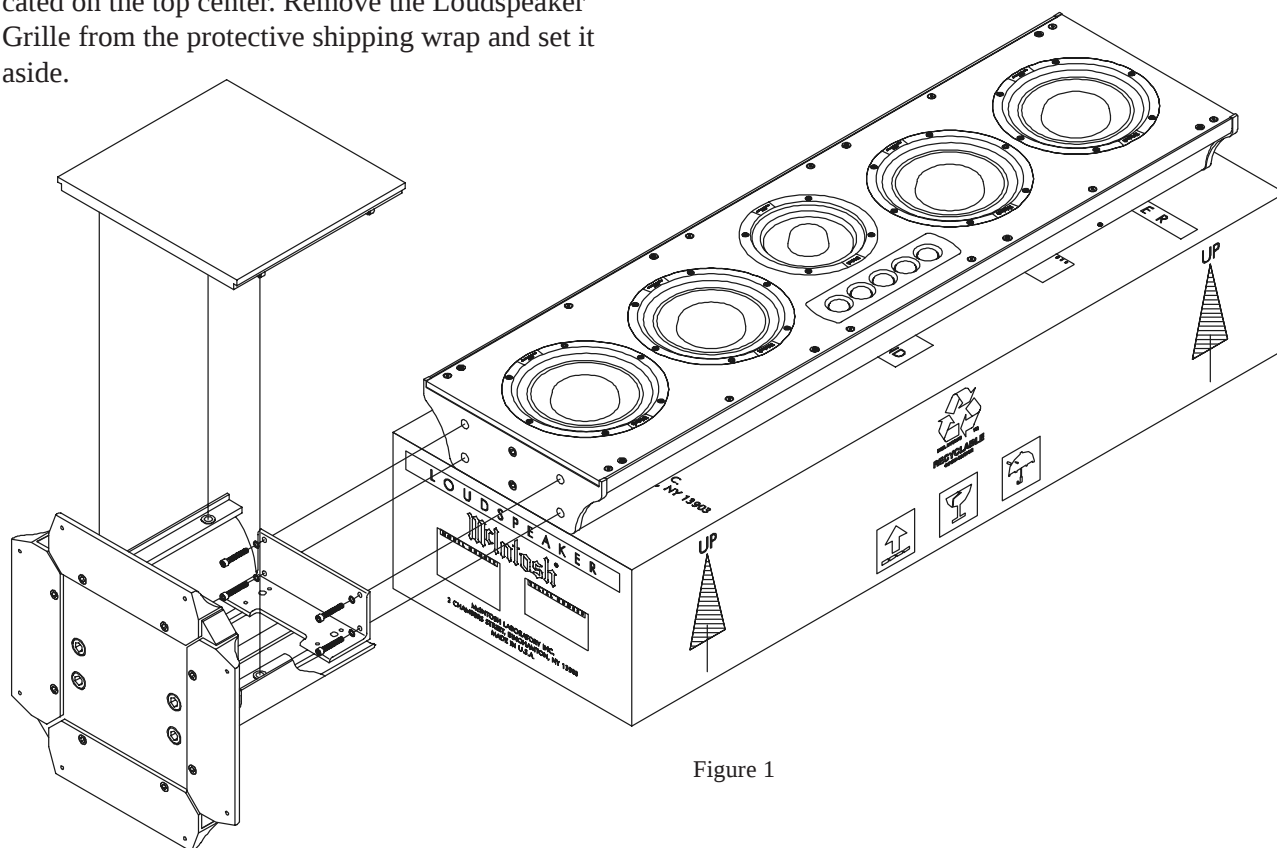

Figure 1
7. Place the Loudspeaker System on top of the packing material located on top of the shipping carton making sure to align the Bottom End to the end of the shipping carton. Refer to figure 1.
10. Using the supplied Allen Wrench, remove two screws from each side of the Loudspeaker Bottom. Refer to figure 1.
13. Attach the Column Base to the Loudspeaker System using the four supplied machine bolts and washers. Refer to figure 1.